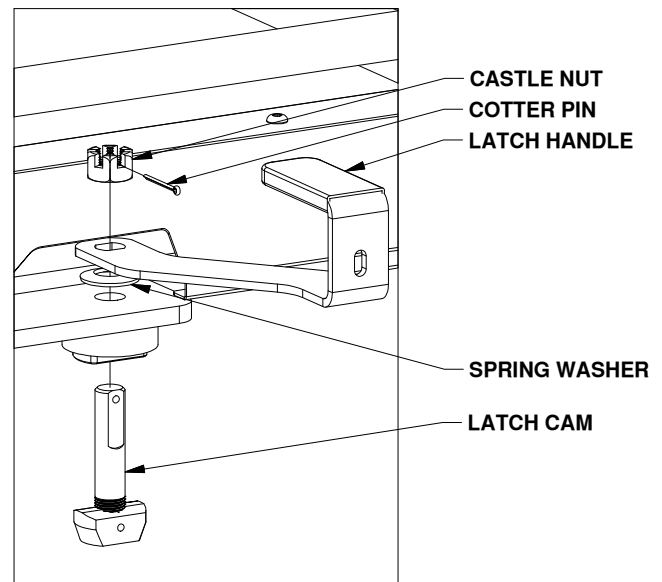

FIGURE B3: List of latch parts.
- Adjust the tension in the latch handle, for parts list and visual guide refer to figures B3 and B4.